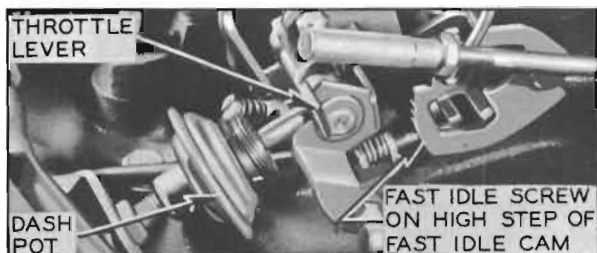

Figure 3-12—Dash Pot Adjustment
1. Open throttle to clear fast idle cam, rotate cam to extreme fast idle position, and allow throttle to close against fast idle cam. See figure 3-12.